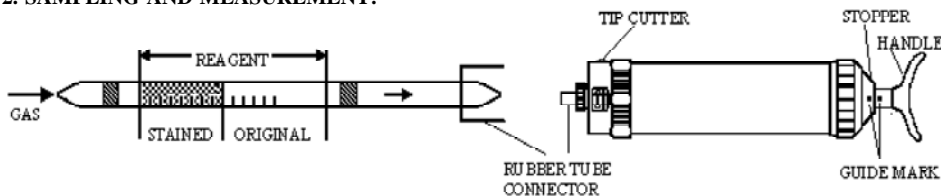

Fig.1
- ① Break both ends of detector tube.
- ② Insert the detector tube into aspirating pump securely as shown in Fig.1. (Arrow mark shall point to the pump.)
- ③ Align the guide marks on the shaft and stopper of the aspirating pump.
- ④ Pull the pump handle at full stroke until it locks and wait for 1.5 minutes or until the completion of sampling is confirmed with the flow indicator of the pump (See descriptions about the flow indicator in the instructions of the pump).
- ⑤ Push the handle without removing the detector tube from the inlet, and air in the pump will be discharged perfectly. Then repeat the step ④ once again.
- ⑥ Repeat above steps ④ and ⑤ once more (total: 3 times).
- ⑦ On completion of sampling, read the scale at the maximum point of the stained layer.